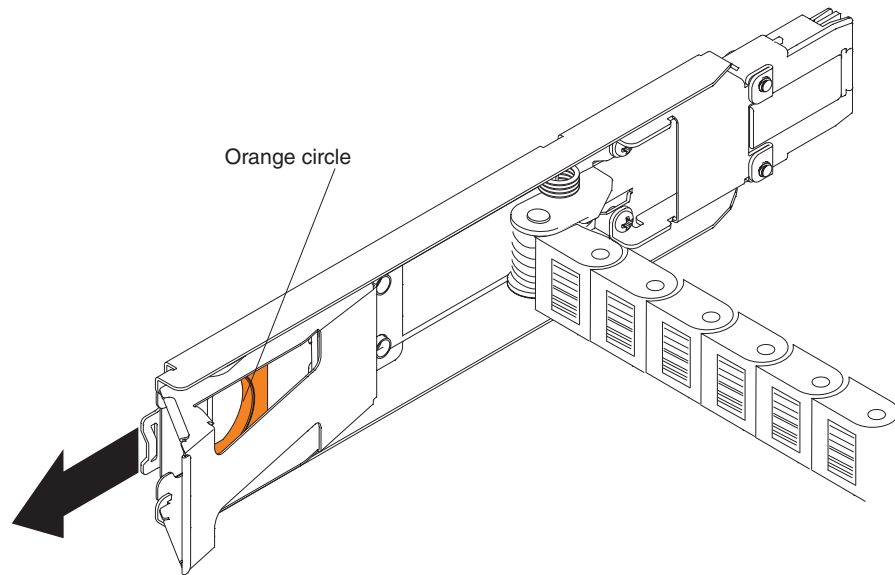

Figure 63. Vertical mounting bracket that connects to the midplane
- a. Disconnect the right cable chain mounting bracket from the midplane. Hold the orange handle (See Figure 63 on page 127) and pull the mounting bracket out of the storage expansion enclosure. If necessary, use a flashlight to locate the orange circle.